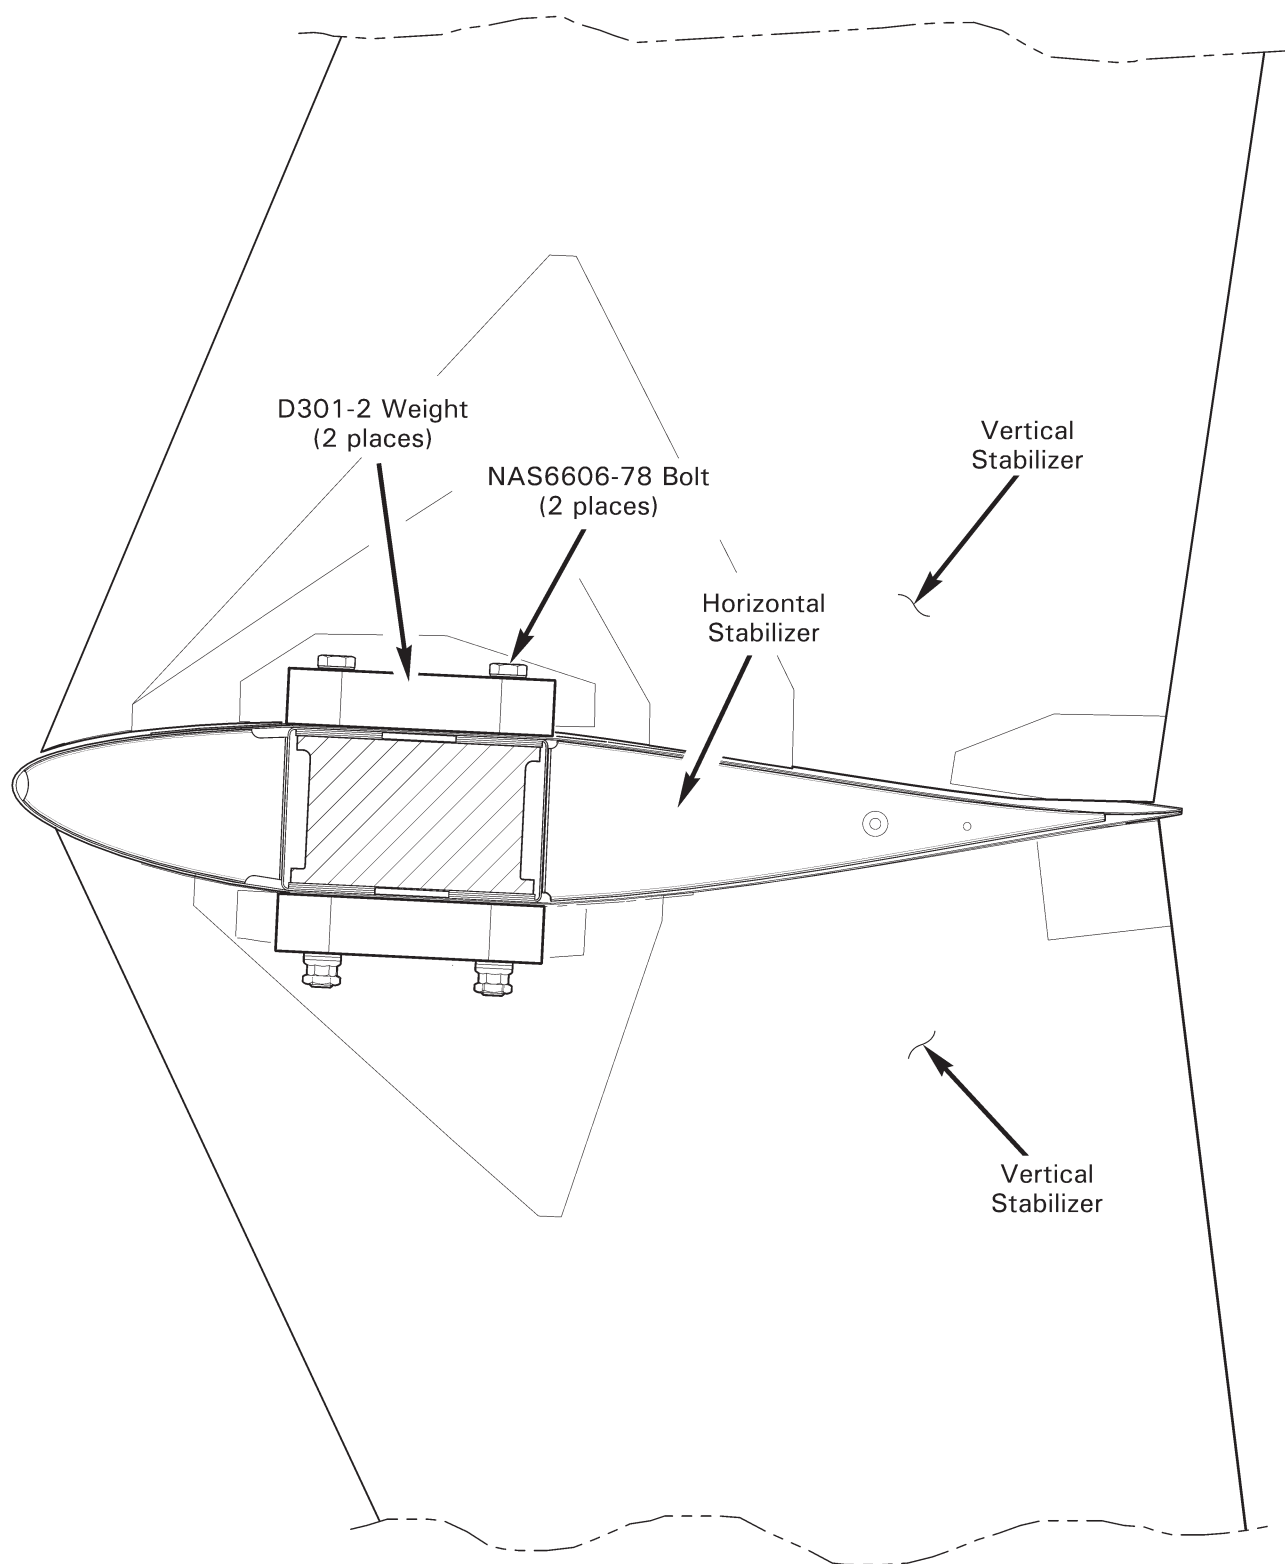

FIGURE 8-5 EMPENNAGE BALLAST
1. Refer to Figure 8-5. Remove empennage assembly, including D301-2 ballast weights, per § 53-50.
1. Refer to Figure 8-5. Remove empennage assembly per § 53-50.